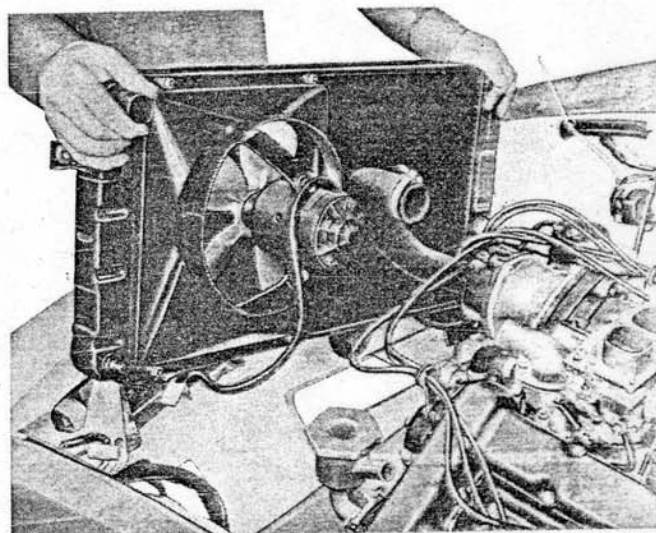

Fig. 18. - Lifting out radiator from engine compartment.
- remove the radiator (fig. 18);